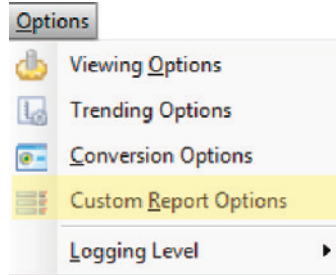
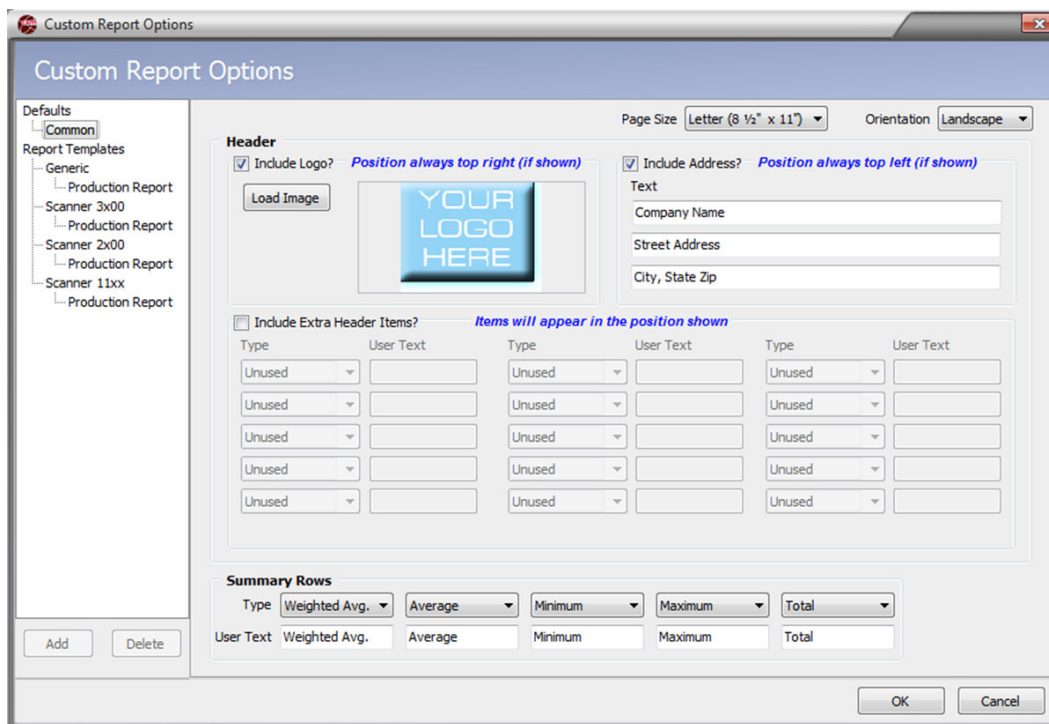

Figure 4.10—Options>Custom Report Options
Figure 4.11—Custom Report Options screen showing Common Defaults dialog
3. Generate a custom report using the *Custom Report Options* dropdown menu accessed from the main screen. See Figure 4.10, page 48 and Viewing and Printing a Custom Report, page 54.
To establish these defaults, choose **Options>Custom Report Options** (Figure 4.10). The dialog will automatically open to the *Common Defaults* screen (Figure 4.11).
A basic set of parameters, such as device/meter name, company name, site/well name, firmware version, and device serial number, is included in the standard header of all reports. However, custom reports allow the user to include other configuration items in a second header (Figure 4.11, page 48). The user can select which parameters to include and change the text description used to identify a parameter by entering text in the “User Text” field. Extra header selections available will vary, depending on the device used to generate the archive file.